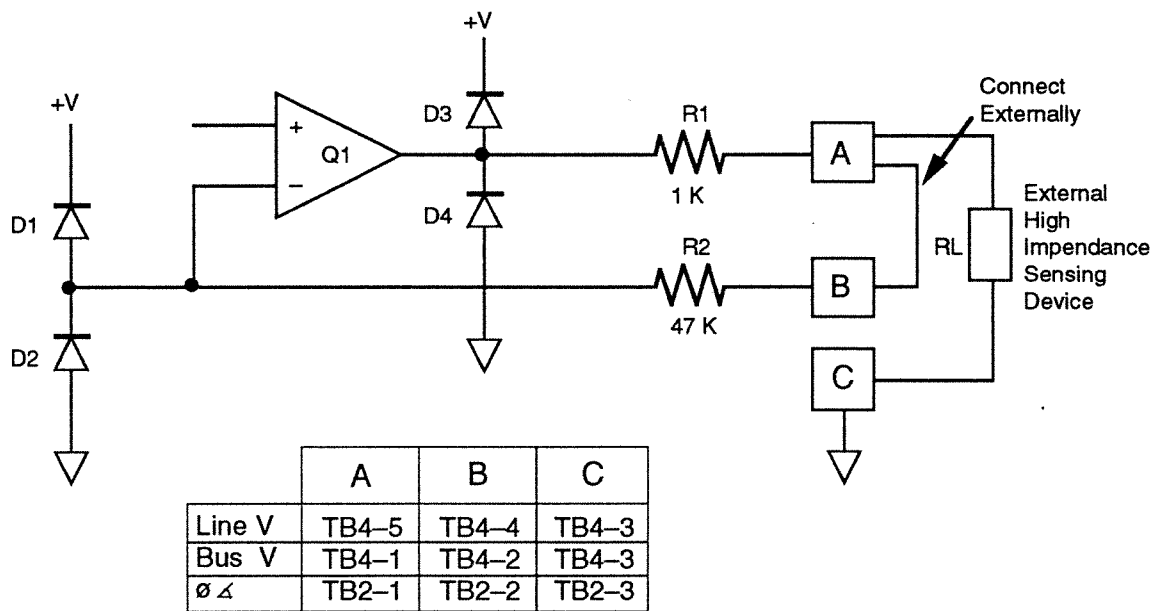
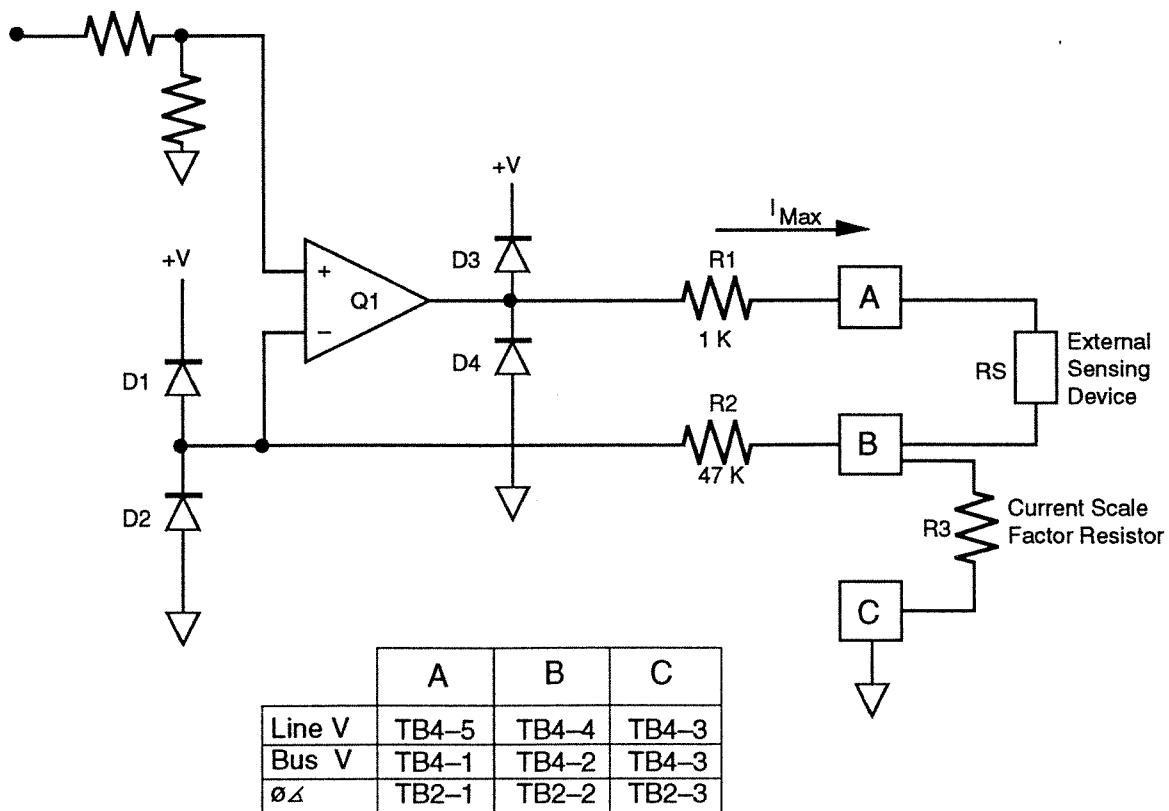

FIGURE 14 Voltage Analog Output Connections
FIGURE 15 Current Analog Output Connections
2. External Connections are shown in Figure 14 and Figure 15.
R70 and R71 form a 1:10 voltage divider that is only used when a current output is specified for the Phase Analog Output. If a voltage analog output is specified, R71 is not installed in the unit. Connections for each are shown in Figures 14 and 15.